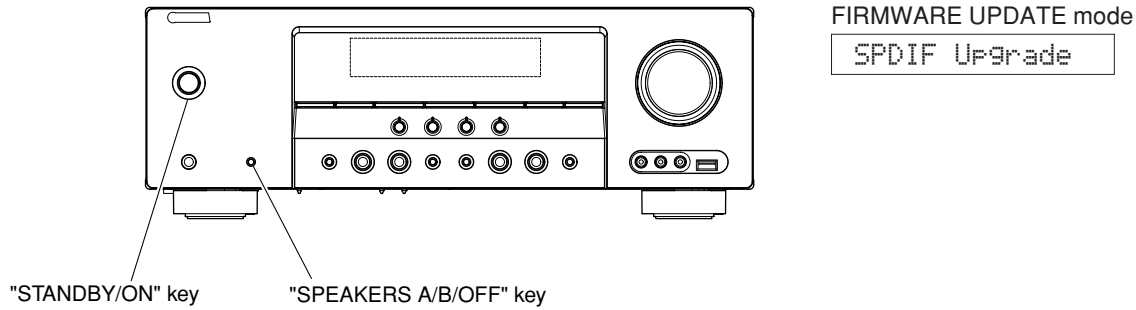

Fig. 2
2. While pressing the "STANDBY/ON" key and "SPEAKERS A/B/OFF" key of the main unit simultaneously, connect the power cable of the main unit to the AC outlet. (Fig. 2)
The FIRMWARE UPDATE mode will then be activated and "SPDIF Upgrade" is displayed. (Fig. 2)